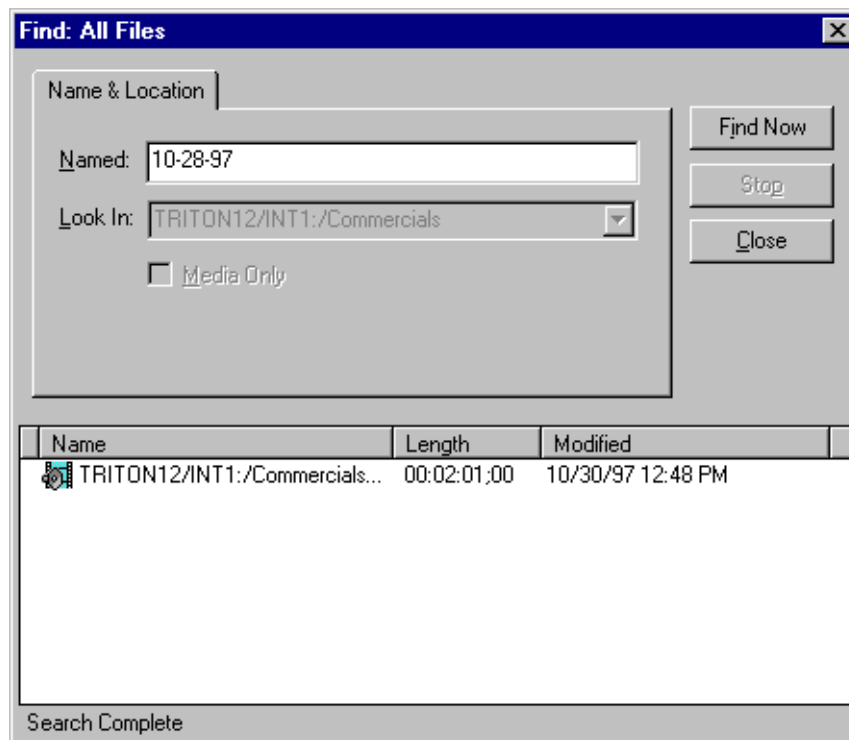

Figure 55. Find dialog box
2. Choose **Find** on the **Edit** menu or from the shortcut menu with a right-click. The Find dialog box appears (see Figure 55).
4. Click **Find Now**. Click **Stop** to abort the search. When a match is found, the result is displayed in the box at the bottom of the **Find** dialog box, as shown in Figure 55.